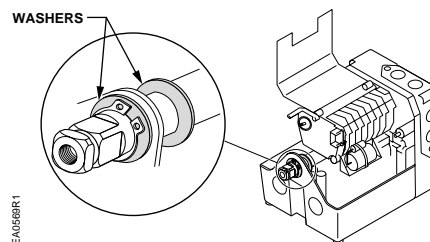

Figure 5.
6. Put one of the washers on the insert end of the shaft. See *Figure 5*.